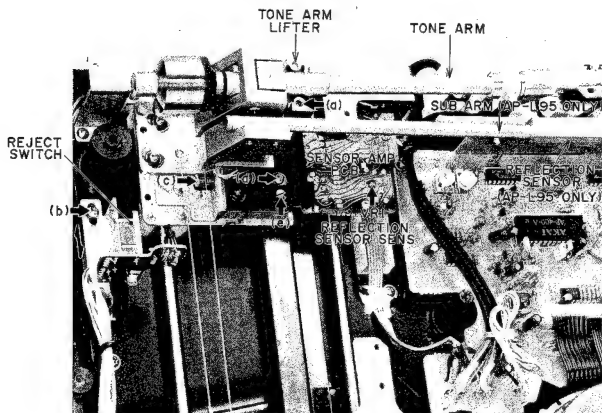

Fig. 20
1. TONE ARM LIFTER HEIGHT ADJUSTMENT (Refer to Fig. 20)
(Refer to Figs. 20, 23, 24)
- 4) If the stylus lowers at a point too far out or in, loosen the screw (b) (Fig. 20), and adjust by changing the position of the REJECT switch. (The stylus' lowering position will change inward if the switch is moved to the front, or outward if the switch is moved to the rear).
ADJUSTMENT (Refer to Figs. 20, 22)
- 4) Short Pin ① and Pin ③ of Syscon P.C Board P6.
- 5) Connect Pin ① of P6 to the digital voltmeter's (-) and Pin ② to its (+).
- 7) Adjust the screw (c) (Fig. 20) until the digital voltmeter reads $-0.25 \pm 0.55V$ DC.
(AP-L95/C) (Refer to Figs. 20, 26)
- 8) Adjust VR1 (Fig. 20 Sensor Amp P.C Board) so that the digital voltmeter reads $-1.0 \pm 0.2V$ DC at this time.
7. REFLECTION SENSOR POSITION ADJUSTMENT (AP-L95/C) (Refer to Fig. 20)
- 5) If the stylus fails to go down in the interval center, loosen the screw (d) (Fig. 20), and adjust by turning CAM (e).